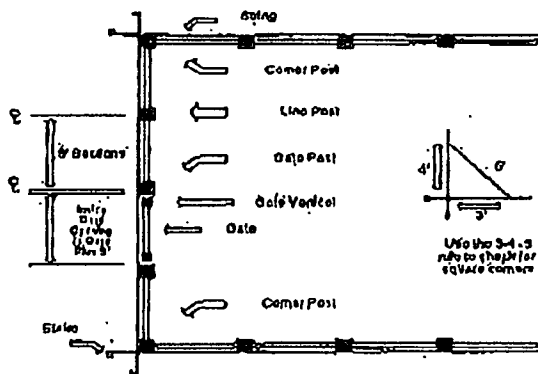

FIG. 1
Step 2. Drive stakes into the ground along the property lines and stretch a string between each stake. Be sure to extend the string about 24" beyond the property line (fig. 1). It is recommended that all posts are set approximately 6" inside the property line so that the concrete footings do not encroach onto the adjoining property.